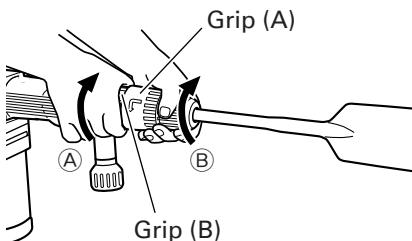

Fig. 4
- (1) As shown in Fig. 4, the blade angle can be freely changed if the grip (A) is turned in the direction of ② in a state where grip (B) is turned 60 degrees in the direction of ①.